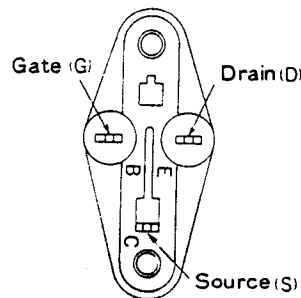

Fig. 7
- (1) When the stabilized power circuit and the peripheral parts of Q701 and Q702 (D701, R703, R709 and their peripheral parts) are replaced, the adjustment of the input/output DC may drift, so be sure to check the input/output DC voltage.
- (2) Since (F) grade of h_{FE} is specially classified into (F1) - (F3) for Q701 and Q702, replace them matching the proper grade with the proper channel.
- (3) Since the socket for transistor use is used for the socket of the POWER MOS FET, polarity is indicated as B, C, E. Match it to the indications shown in Fig. 7 when replacing the POWER MOS FET and when checking.